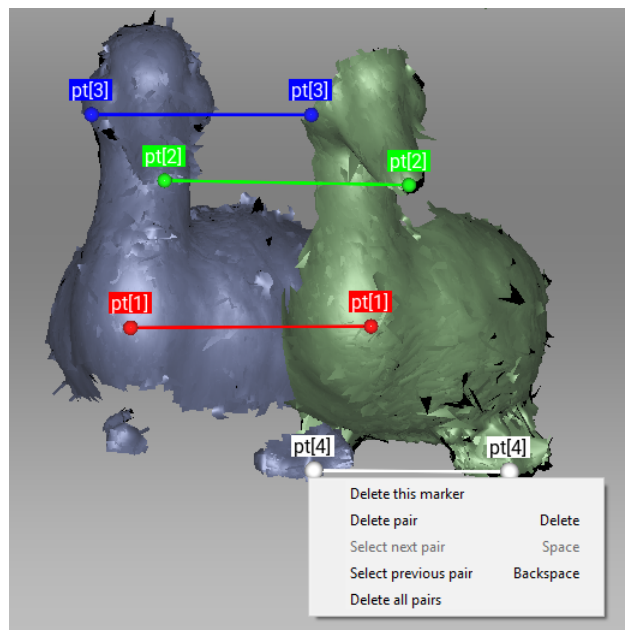
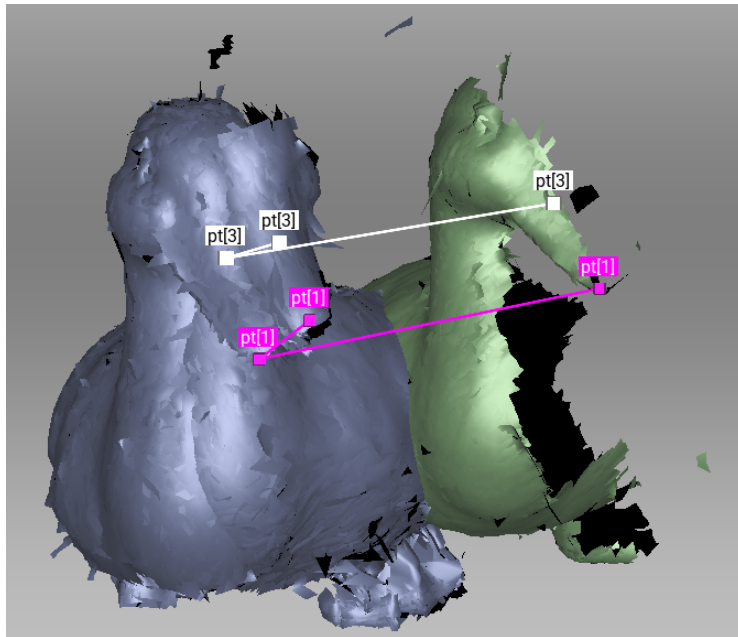

Figure 72: Creation of point pair.
Figure 78: Before alignment: two point-set added.
When specifying points in the *Rigid* and *Nonrigid* modes, the application automatically creates pairs. Having specified one pair, you can immediately create the next one. In *Complex* mode you must confirm set creation by hitting *Space* or by clicking *New set* from the left panel, because the set may comprise multiple points (see *Figure 72* and *Figure 78*).
3. Specify several point pairs (Figure 72), keeping in mind the recommendations from Specifying Points and Editing Their Positions.
3. Specify one or more point sets on the scan surface (see Figure 78), keeping in mind the recommendations in *Specifying Points and Editing Their Positions*.